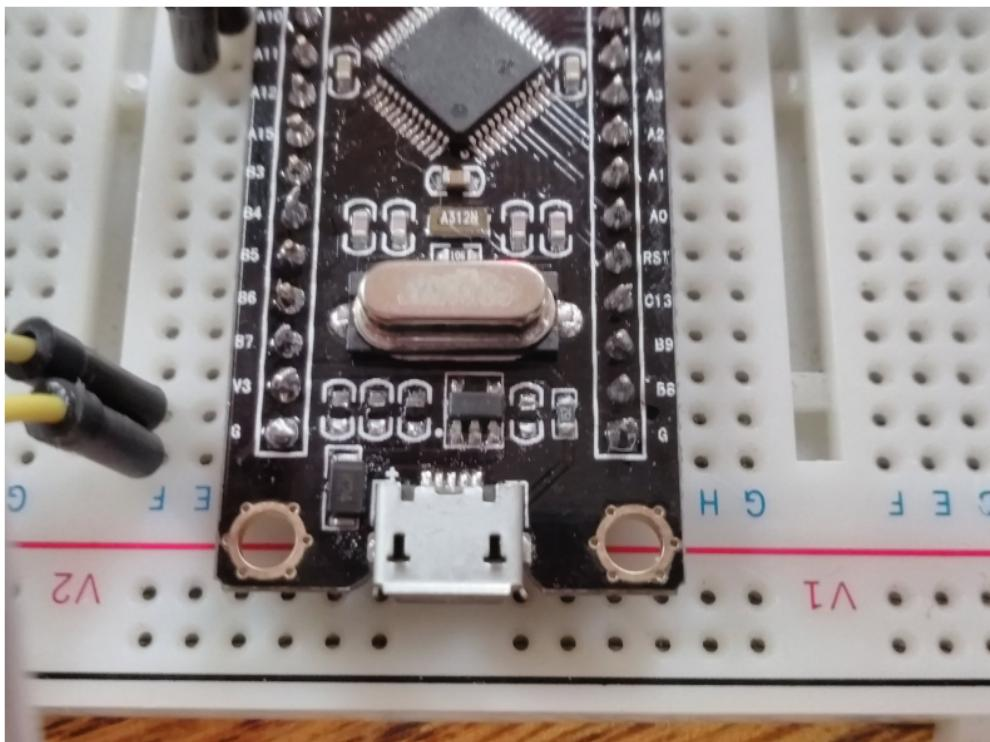

Figure 14.2: Powerline decoupling capacitors removed off a ‘blue-pill’ like dev board
- Remove the power decoupling capacitors - not all the caps need to come off, but the decoupling ones should be removed. See fig 14.2.